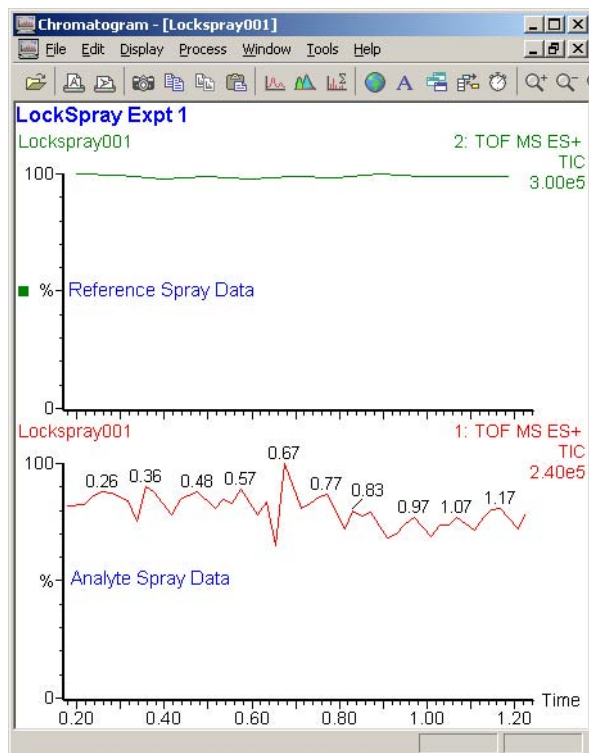

Figure 4-5 Reference and Analyte Spray Data in the Chromatogram Window
- c. Select both traces to display and select  for Real-Time Update (see Figure 4-5).
**Note:** Figure 4-5 has been annotated to distinguish between each trace.